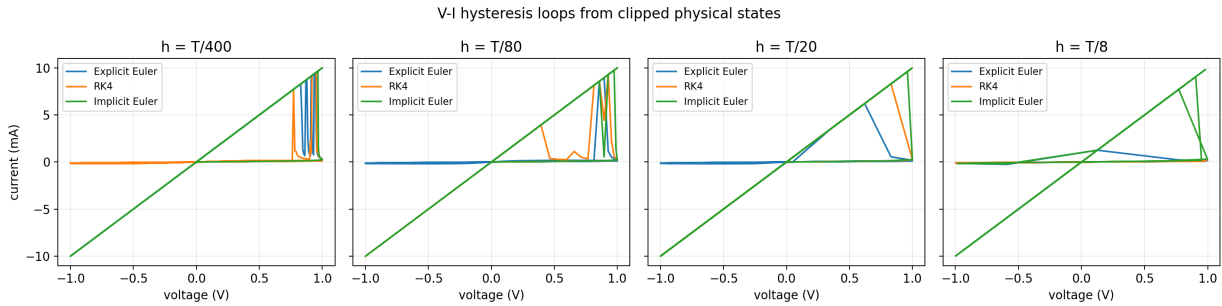

Figure 3: Voltage-current hysteresis loops computed from clipped physical states.
Figure 3 plots current against voltage. Voltage is on the horizontal axis. Current is on the vertical axis. Because the voltage is sinusoidal, the system repeatedly moves forward and backward through voltage values.
6.9 Presentation explanation for Figure 3